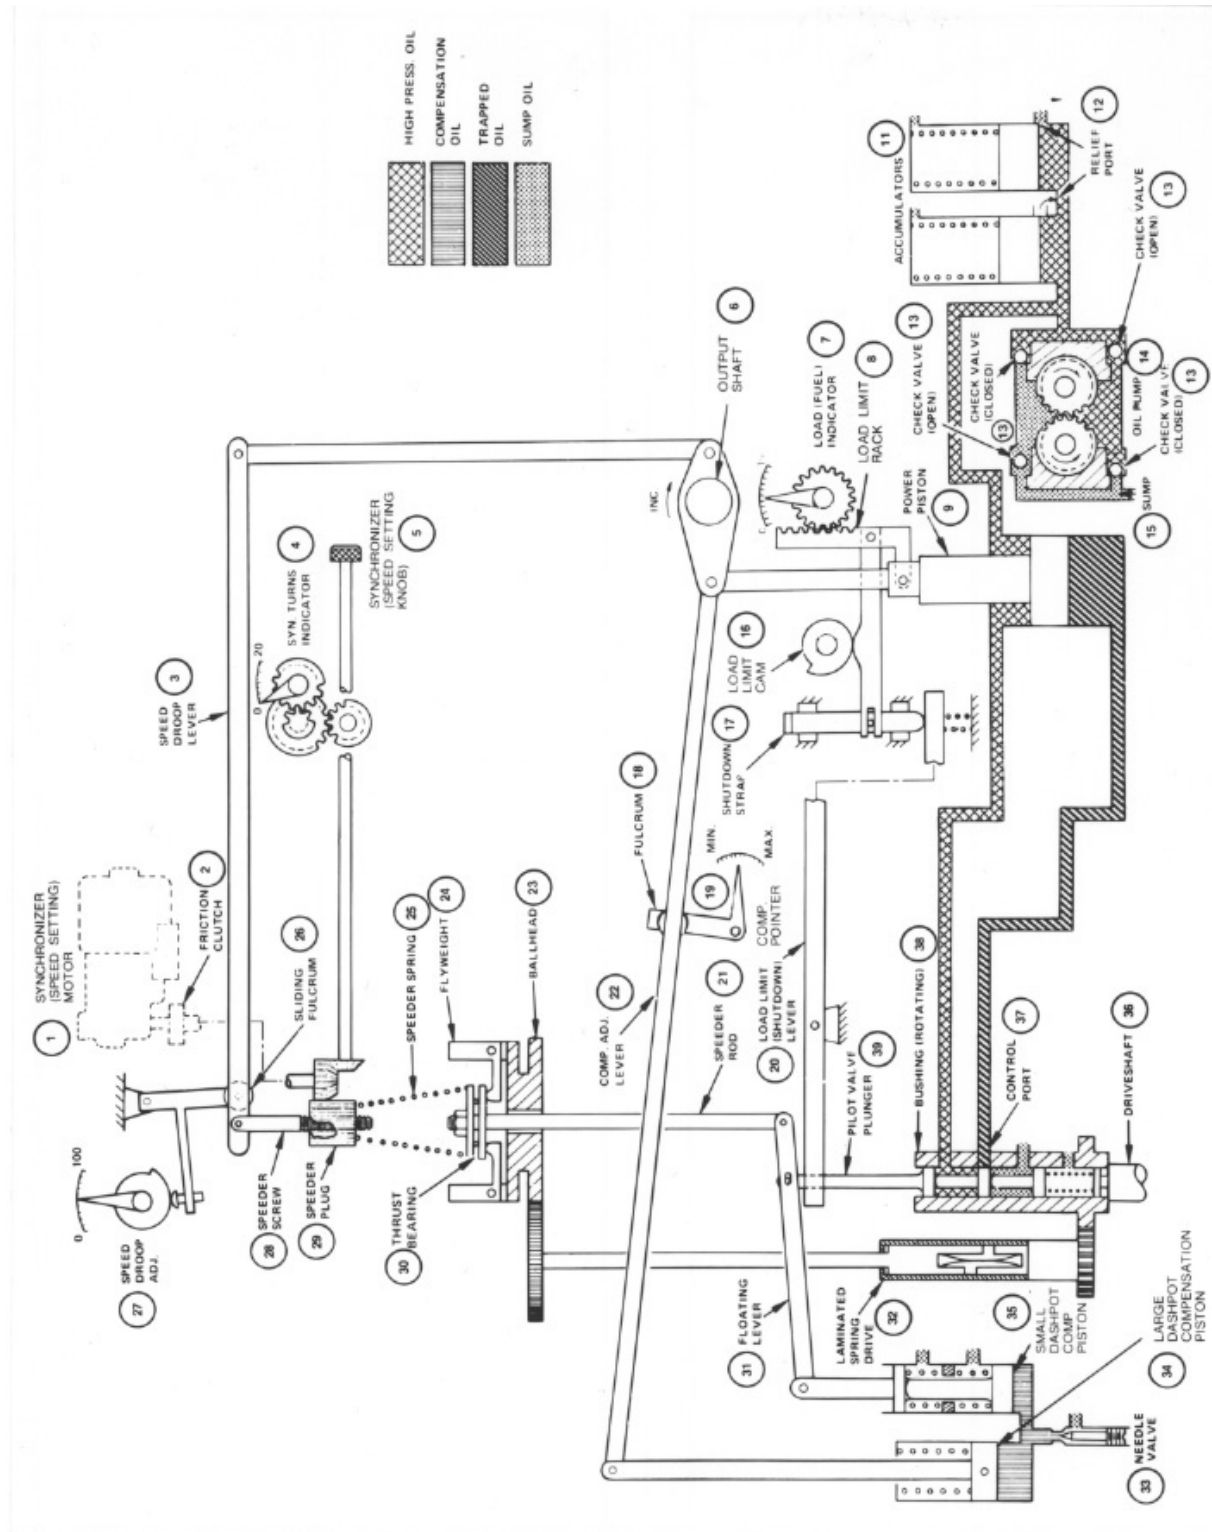

Figure 3-1. UG Dial Governor Schematic Diagram
Along with the text, a schematic diagram (Figure 3-1) is provided for visual means of understanding the operation of the UG Dial governor. This schematic shows a basic design and does not include any auxiliary equipment.
When the pilot valve plunger (39) is lowered, high pressure oil flows under the power piston (9), raising it. When the pilot valve plunger is raised, oil is released to sump from under the power piston (9), lowering it. The higher pressure on top of the power piston(9) forces the piston down. When the pilot valve plunger (39) is in its centered position, the control land covers the control port as shown in the schematic (Figure 3-1), and there is no movement of the power piston.
The compensation system includes a large dashpot compensation piston (34), a small dashpot compensation piston (35), a floating lever (31), a compensation adjusting lever (22) with a pivotable fulcrum (18), and a needle valve (33). See Figure 3-1.
Refer to Figure 3-1 with the text to better understand the operation of the UG Dial governor. This schematic diagram is of a basic design and does not include any auxiliary equipment.